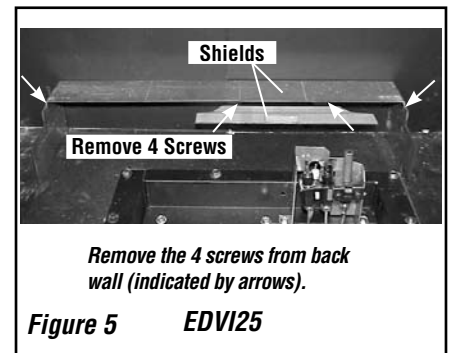

Figure 5 EDVI25
5. (EDVI25 only) Remove the two shields shown in *Figure 5*.